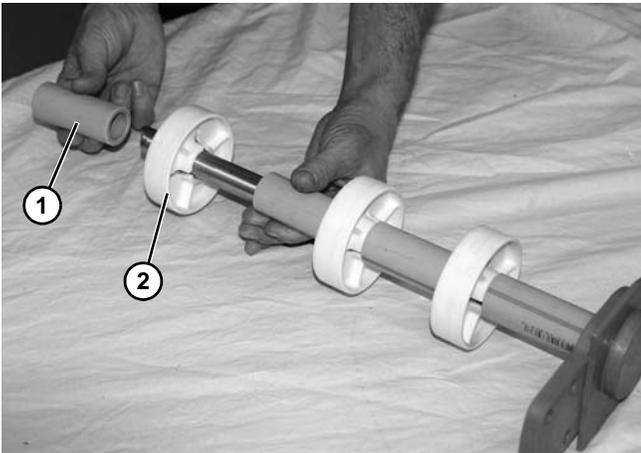

Figure 55
- Slide off the round puck spacer (**Figure 55, item 1**).
- Slide off puck (**Figure 55, item 2**) and replace if worn.